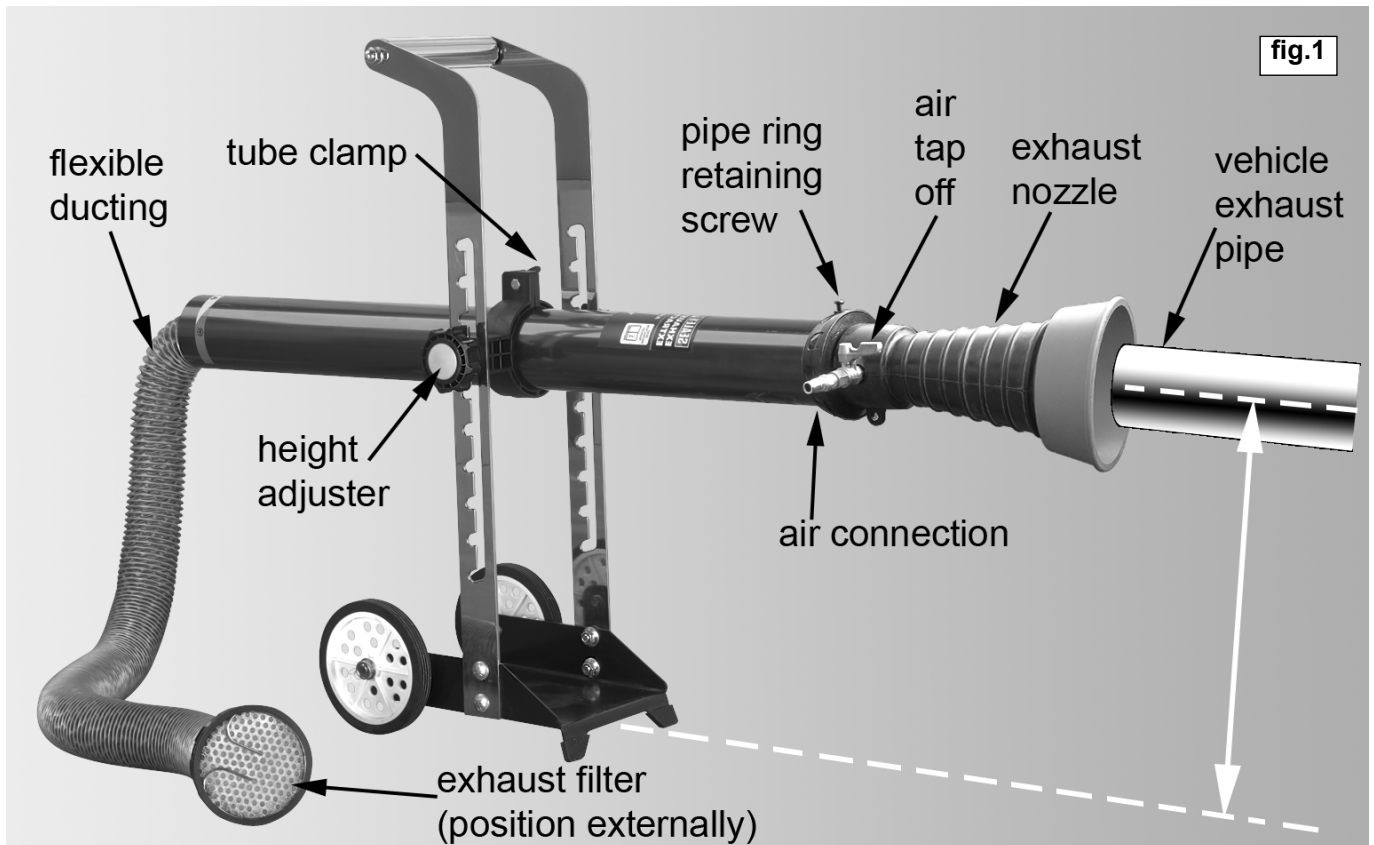

fig.1
- 3.1. Ensure that the air tap (See fig.1) is in the "off" position before connecting to the air supply.